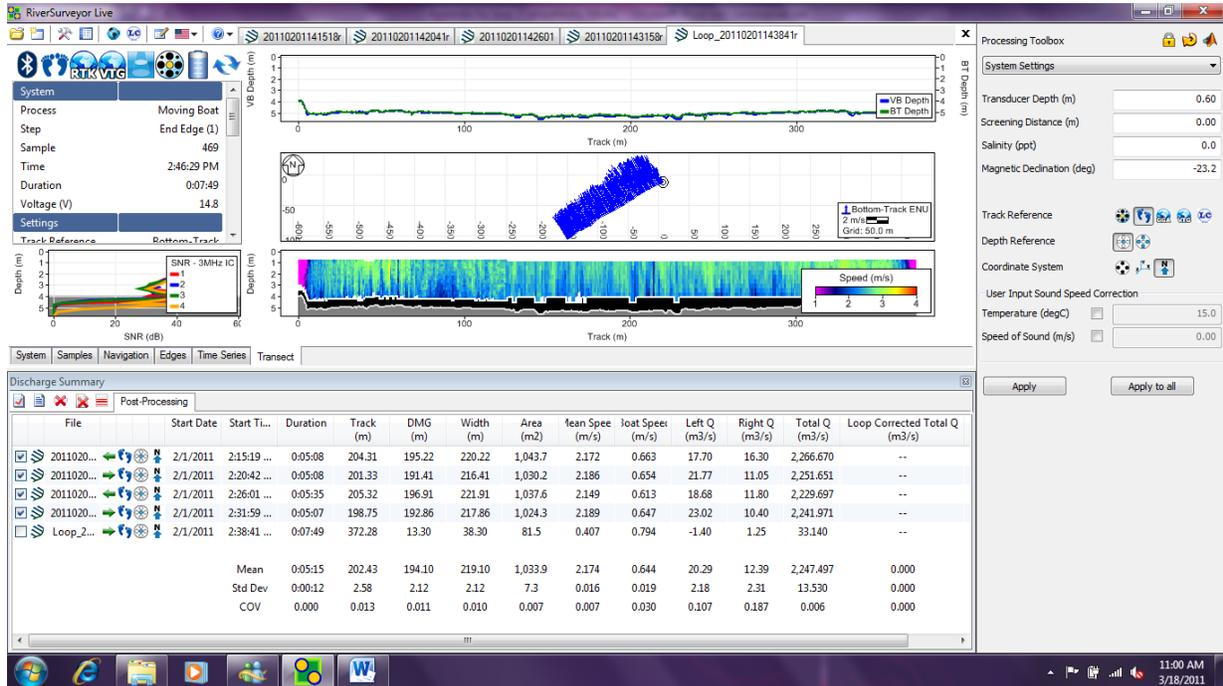

Figure 134. Loop Method Processing
- The moving bed speed is now calculated. Prior to applying the correction, you must first open the Processing Toolbox by clicking the Tools icon (**Ctrl+T**) on the tool bar located at the top of the screen. It is also helpful to open the Discharge Summary (**Ctrl+S**) by clicking the summary icon located on the toolbar. The screen should appear as shown in Figure 134.